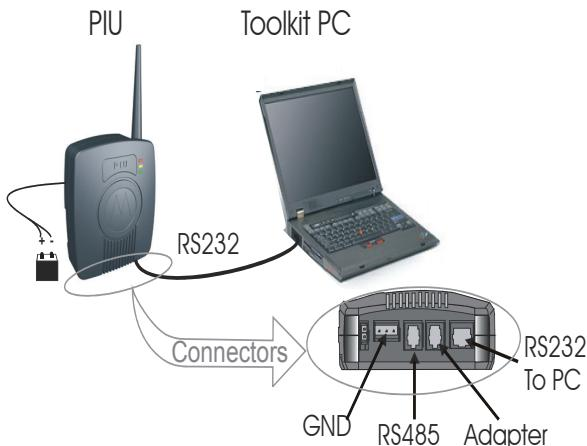

Figure 22
1. Connect the PIU unit RS232 port to the computer with the FTN6597B cable (see Figure 22).